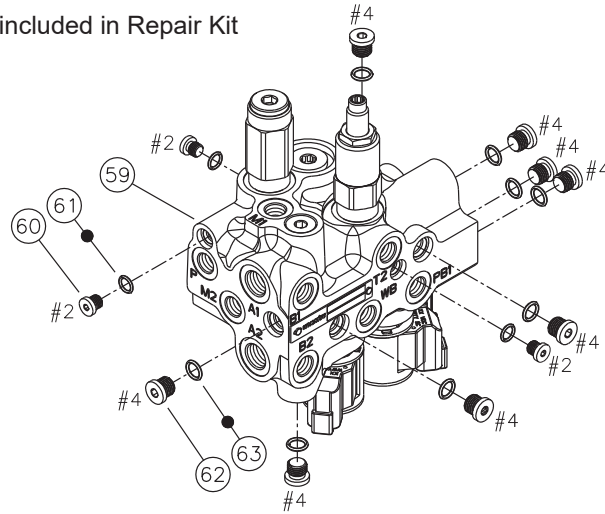

FIGURE 2
15. Remove nut (40) and coil (41) from solenoid valve (42). Remove back-up rings (44 & 46) and o-rings (43, 45, & 47) from solenoid valve (42).
16. Remove nut (48) and coil (49) from solenoid valve (50). Remove back-up rings (52 & 54) and o-rings (51, 53, & 55) from solenoid valve (50).
17. Remove nut (56) and coil (57) from solenoid valve (58). Remove back-up rings (44 & 46) and o-rings (43, 45, & 47) from solenoid valve (58).
18. Refer to Figure 2 on page 4 and remove eight #4 plugs (62) and three #2 plugs (60) from housing (59). Remove o-rings (63) from plugs (62) and o-rings (61) from plugs (60).
15. Install new o-rings (43, 45, & 47) and new back-up rings (44 & 46) on solenoid valve (42). Install solenoid valve in housing (59). Torque with a wrench on the hex flats 24.4-27.1 N·m (18-20 lb·ft). Install coil (41) and nut (40) on solenoid valve (42) and torque 3.4-6.8 N·m (30-60 lb·in). **NOTE: O-rings and back-up rings**
16. Install new o-rings (61) on three #2 plugs (60). Install #2 plugs (60) in housing (59) and torque 3.4-6.8 N·m (30-60 lb·in). See Figure 2 on page 4.
17. Install new o-rings (63) on eight #4 plugs (62). Install #4 plugs (62) in housing (59) and torque 13.6-19.0 N·m (10-14 lb·ft). See Figure 2 on page 4.